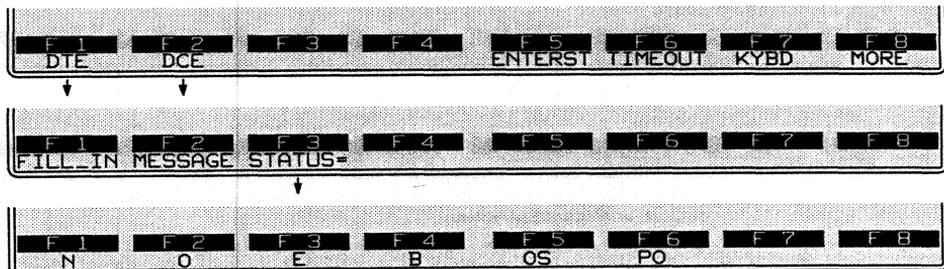

Figure 42-5 Frame types.
1. *Fill-In and Message*. The softkeys for *FILL_IN* (Fill-In Status Unit), *MESSAGE* (Message Signal Unit), and *STATUS=* (Link Status Signal Unit) are illustrated in Figure 42-5. Press a softkey to write one of these signal-unit types to the Layer 2 spreadsheet.
2. *Link Status*. *DTE* (or *DCE*) *STATUS=* is not a complete condition. Select an *LSU* type from the third softkey rack shown in Figure 42-5. The full set of abbreviations and their meanings is given in Table 42-1.